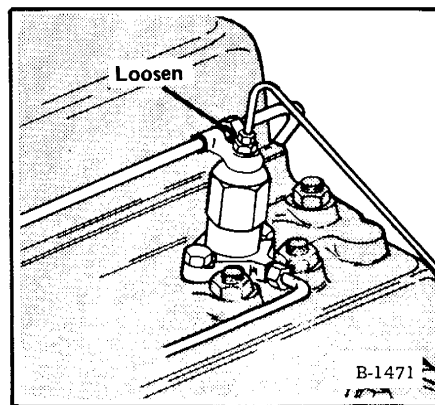

Fig. 44 Injector Vent
9. Loosen pipe nuts on injector end of each of the high pressure fuel lines (Figure 44).
2. Loosen one injector high pressure fuel line nut and note sound of engine when doing so (Figure 44).